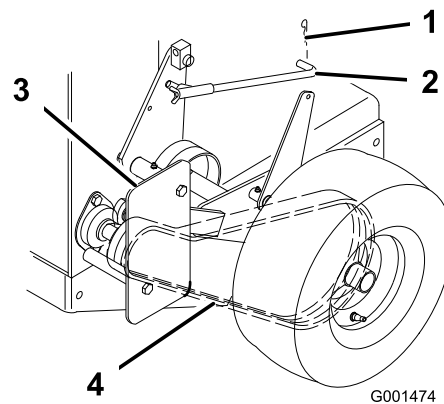

Figure 36
3. Remove the hairpin cotter securing the brake rod to the brake arm to relax the tension on the belt idler (Figure 36).
4. Remove the bottom bolt and loosen the top bolt of the shield to rotate it for belt clearance (Figure 36).
5. Lift the belt past the idler and off the drive pulley (Figure 36).
8. Secure the shield with the previously removed bolt and tighten the bolts (Figure 36).
9. Secure the brake rod to the brake arm with the hairpin cotter (Figure 36).